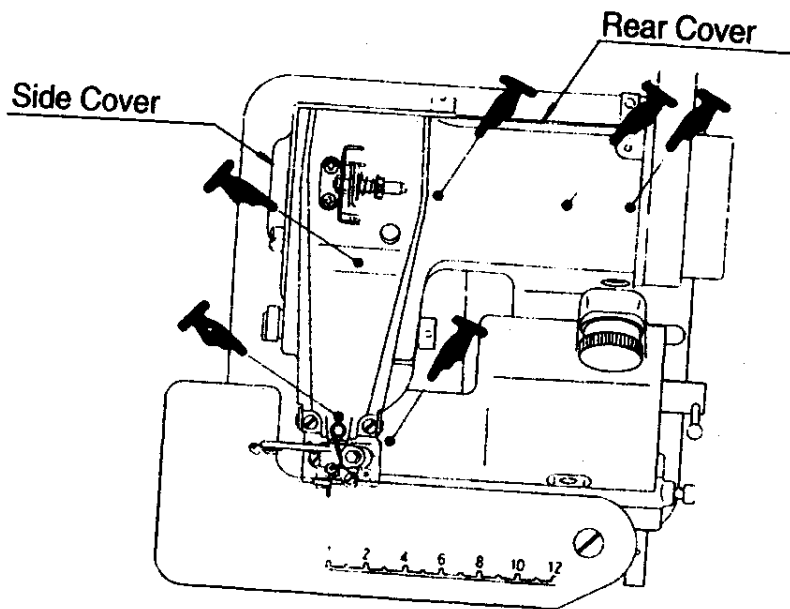

Fig.7
2.Lubrication (Fig.7)
Lubrication is important for the trouble-free operation and long service life of the machine. Therefore,after setting-up machine as per paragraph 1,drop a sewing machine oil into all the holes indicated by arrows on Fig.7,and also drop oil onto the inner moving parts after opening the side cover and rear cover of machine.